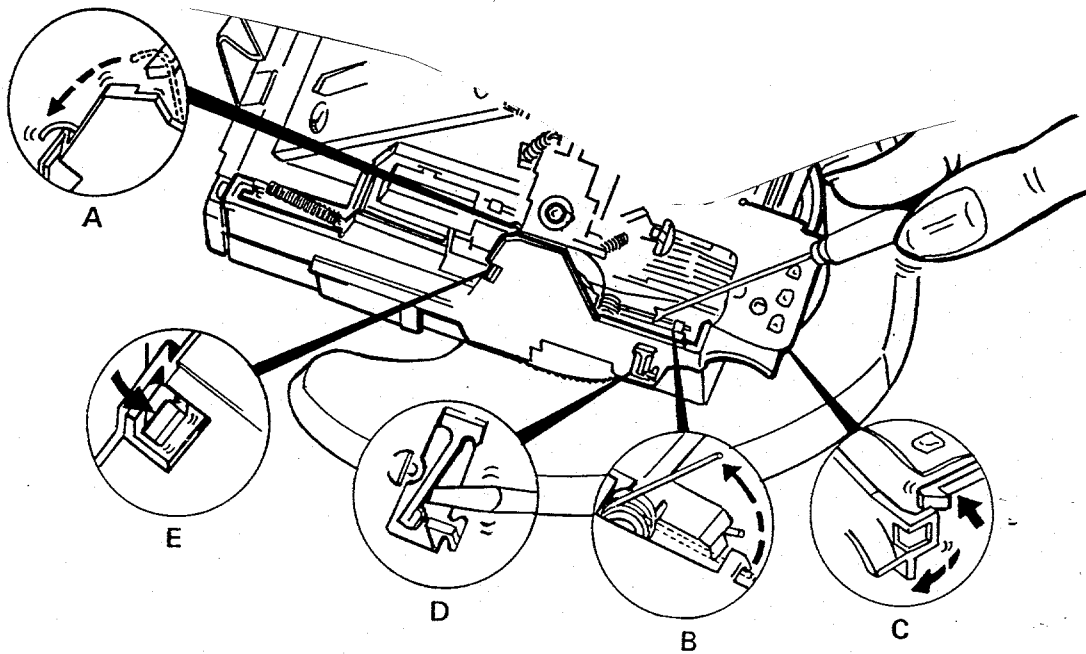

Fig. 40 Releasing springs and Gear Drive Cover detents
48. Release the tension on the Counter and Pawl Springs (see insets A and B, Fig. 40).